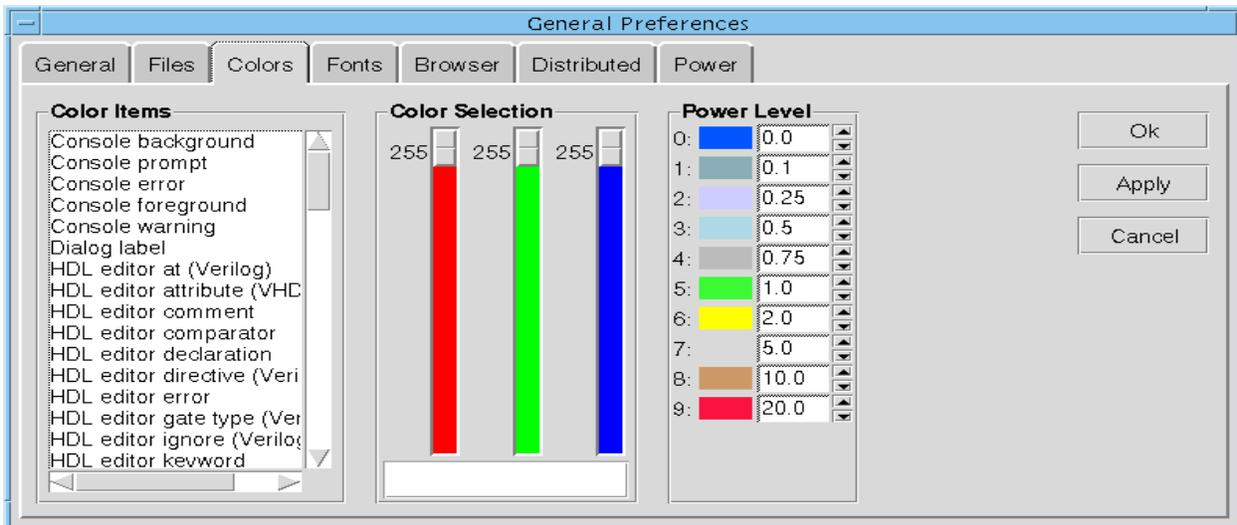

Figure 4-6 The General Preference — Color Form
3. The toggle rate histogram opens. See Figure 4-6 on page 74.